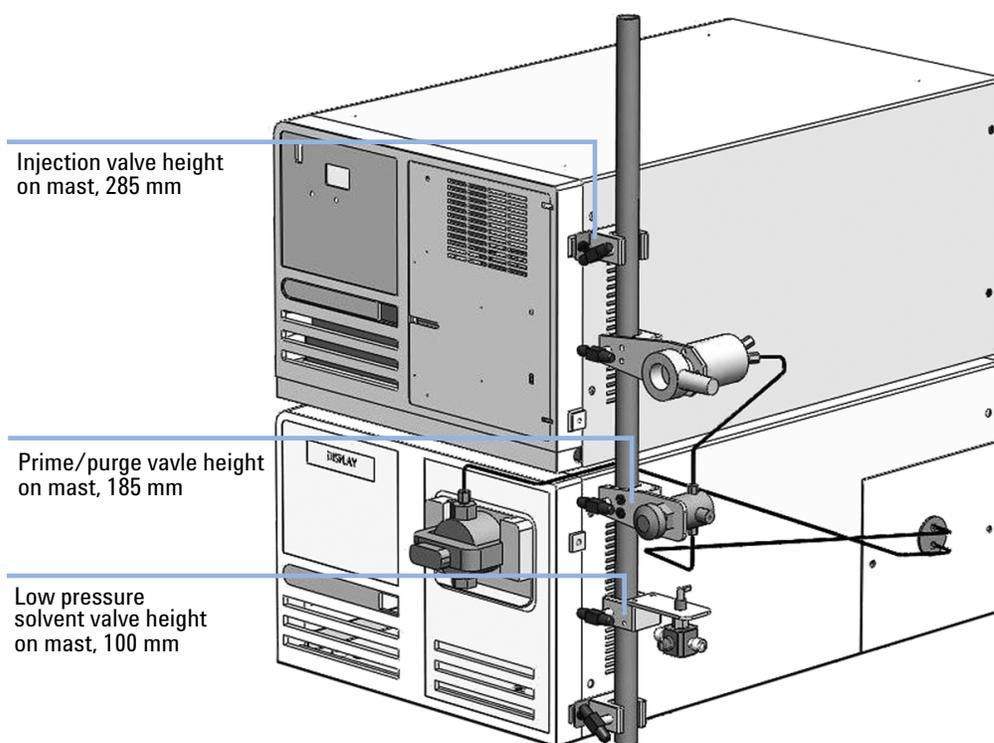

Figure 2 Component locations on the mast
- 4 Attach each valve to the mast in the heights described in Table 1 on page 9 and shown Figure 2 on page 9.